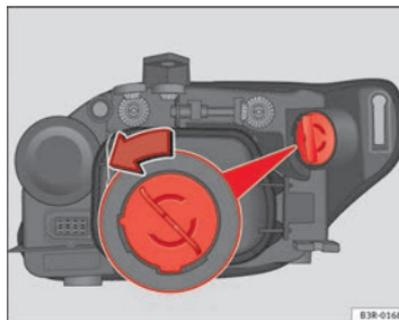

Fig. 194 Turn signal bulb
- Turn the bulb holder anticlockwise, pulling it by the grip ⇒ Fig. 194 and removing the bulb holder and the bulb.